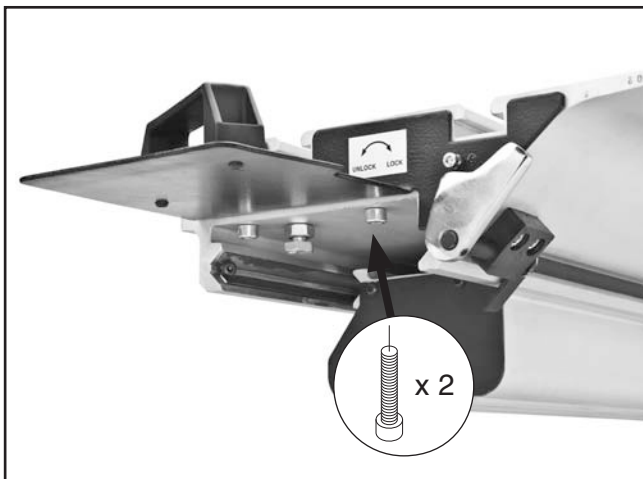

Figure 26. Sliding table end handle attached.
24. Attach the end handle to the right side of the sliding table with the (2) pre-installed M8-1.25 x 16 cap screws, as shown in **Figure 26**.